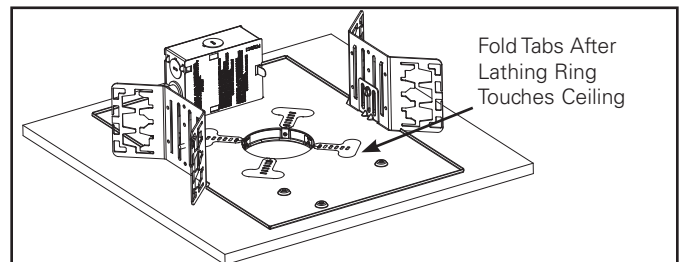

Figure 3.
8. Push lathing ring against the ceiling. Fold tabs over as shown in figure 3.